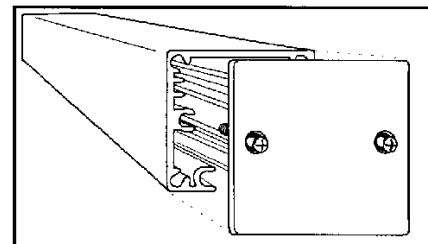

Fig. 2
- Step 1.** Remove one end cap from trim assembly and slide lampholder mounting plate out at least two inches. (See Fig. 2)